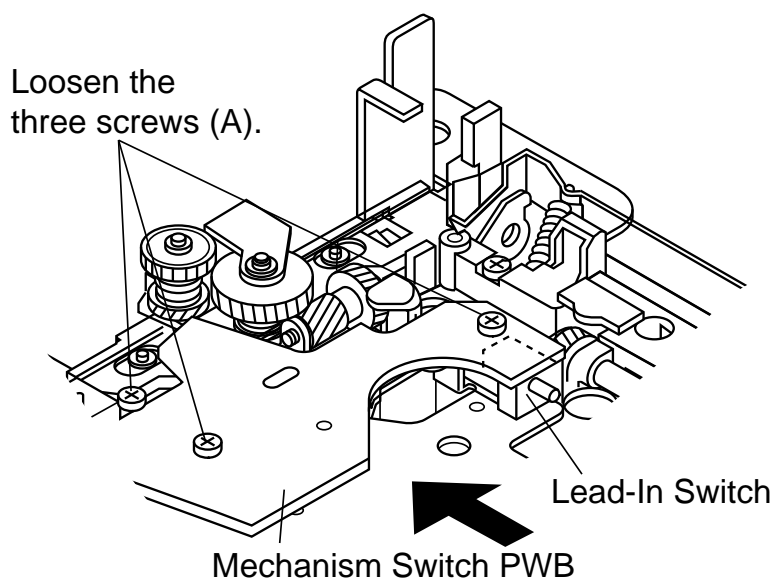

Figure 29
1. Loosen the screw (A) x 3 pcs. which fix the mechanism switch PWB.
After position adjustment fix with the three screws (A). (See Fig. 29.)